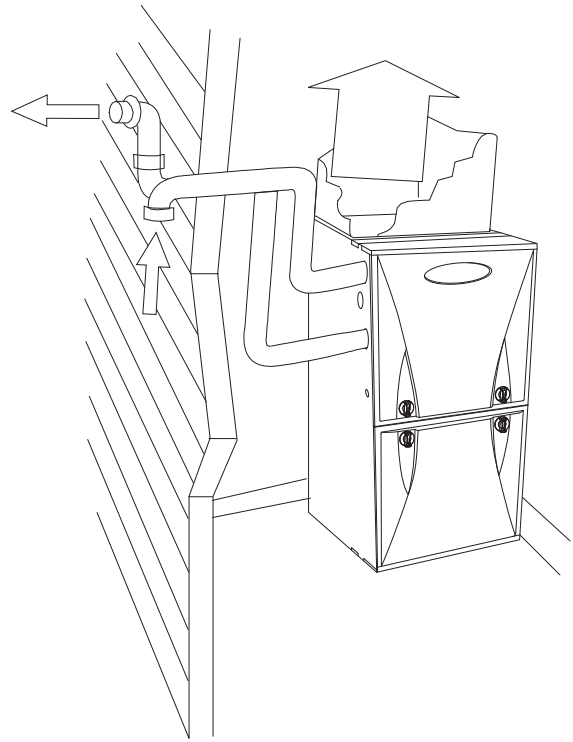
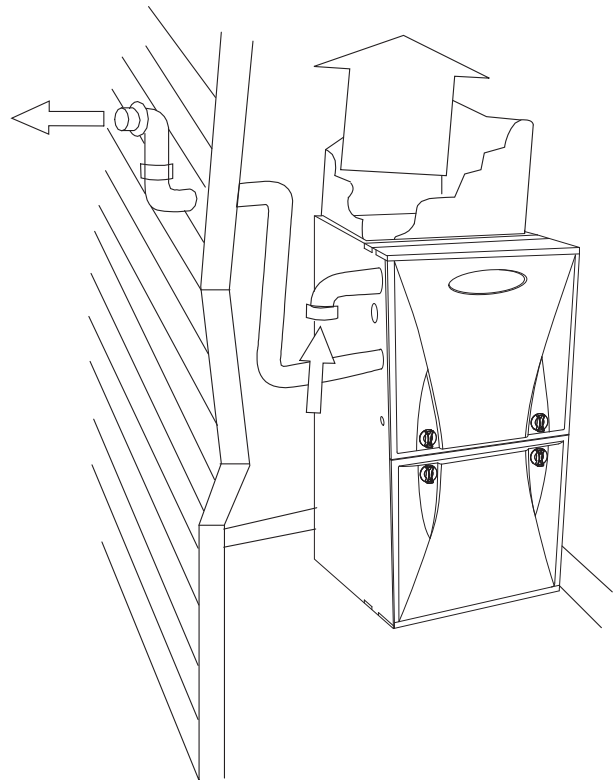

Fig. 2 - Exterior Vent Pipes
Fig. 3 - Interior Combustion - Air Pipe
- Your new gas furnace may have been installed in one of two ways, as a direct-vent (2-pipe- Fig. 2) application or as a non-direct vent (1-pipe- Fig. 3) application.
- **In a direct-vent (2-pipe) application**, your furnace uses air from outside the home for combustion and vents flue gas to the outdoors. This type of application will have two pipes running from the furnace to the outdoors. In some cases, the inlet air pipe may be located in an area that has access to outdoor air, such as an attic. In all cases, the outlet vent pipe must be routed to the outdoors. (See Fig. 2.) In this application, the vent and air-intake pipes must terminate outside the structure and must not be obstructed in any way. Do not block or obstruct air openings on furnace or spaces around furnace.
- **In a non-direct vent (1-pipe) application**, your furnace uses air from adjacent to the furnace for combustion and vents flue gas to the outdoors. This type of application will have only one pipe running from the furnace to the outdoors. (See Fig. 3.) The other pipe will terminate in the same space as the furnace and is the source of combustion air for your furnace. Therefore, the furnace must not be enclosed in an airtight room or be sealed behind solid doors. It must have adequate airflow for efficient combustion and safe ventilation. Do not obstruct the combustion-air pipe in any way. The vent pipe must terminate outside the structure and must not be obstructed in any way. Do not block or obstruct air openings or space around furnace.